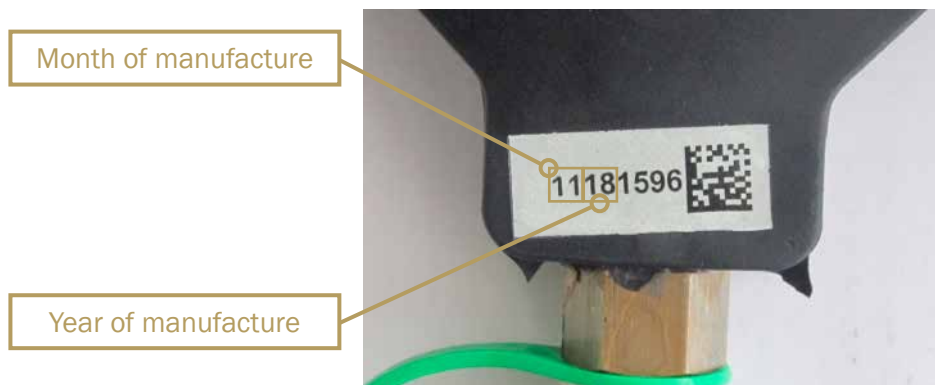

Fig. 6.12: Serial number on SAVA lifting bag
The example in Fig.6.12 shows SAVA lifting bag was made in November (11) in 2018 (18).